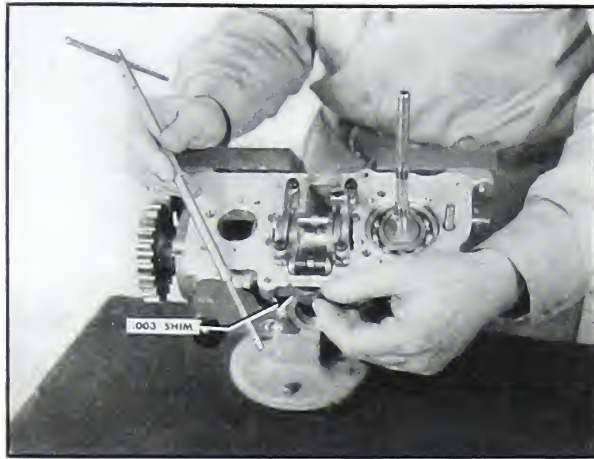

Fig. 5-331. Assemble cam rocker assembly
opening for cam rocker lever spring retainer. Fig. 5-331.
2. Check for free movement. Leave approximately .003" clearance between each bracket bushing and the rocker lever. Fig. 5-331.